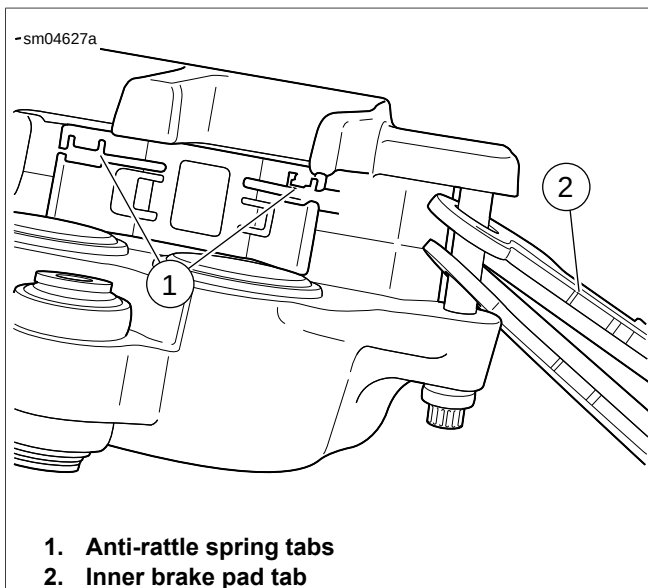

Figure 1-33. Anti-rattle Spring
10. See Figure 1-33. Inspect anti-rattle spring. Replace if worn or damaged.